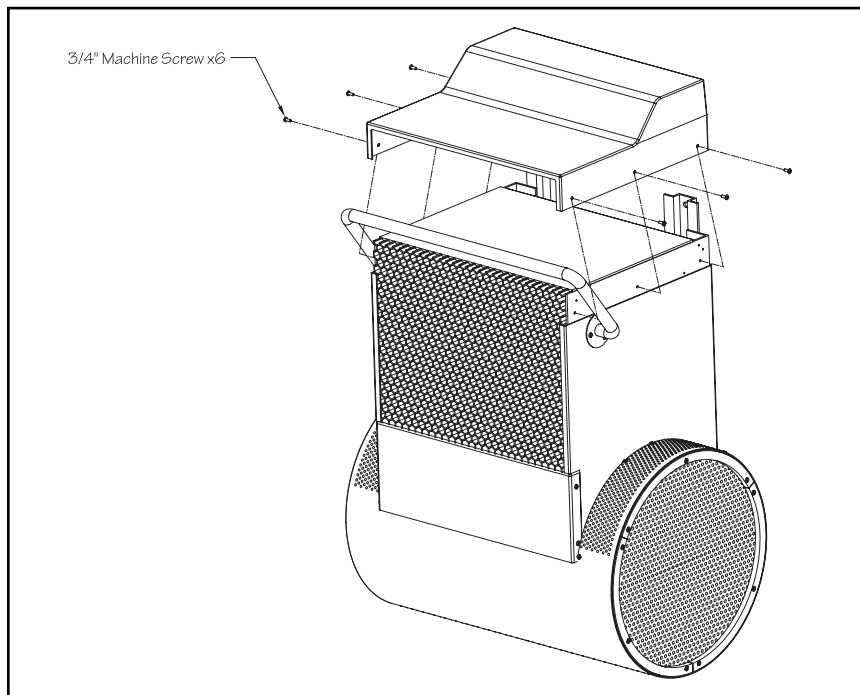

Fig. 6.12
6.14 Once the Fastlane Pro is installed in the pool, place the housing lid onto the housing and use the provided screws to attach. There will be three screws per side, for a total of six (Fig 6.12).
- 9.6 Place the Fastlane Pro lid onto the top of the Fastlane Pro and use the six 3/4" (19mm) stainless steel screws that were provided (3 on each side) (See Fig 6.12).